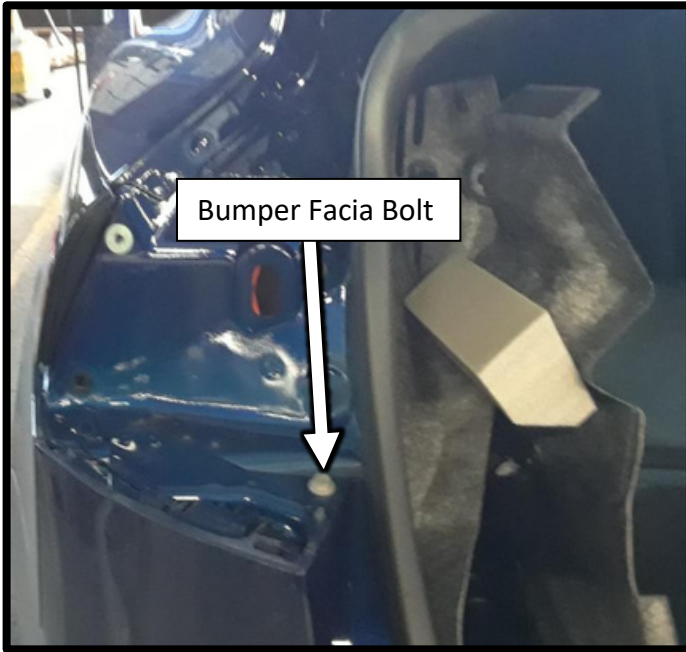

Figure 4.1
- Remove the two remaining bumper fascia bolts that are recessed under the lights as shown in figure 4.1.